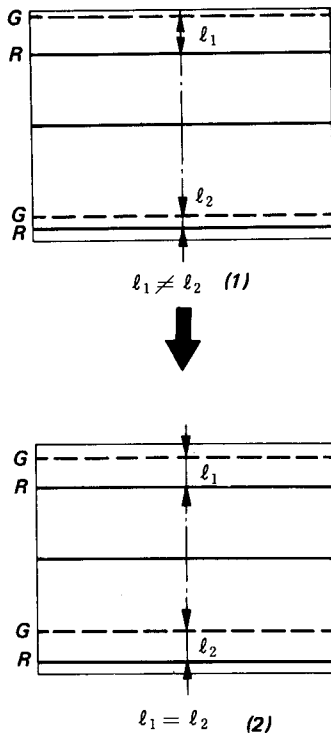

Fig. 3-22
- ① Adjust RV5505 (V. SKEW <G>) so that the red horizontal center line is parallel with the green horizontal center line.
- ② Repeat the procedures 6) and 7).
- 9) When the vertical adjustment can not be obtained by using RV5505 (V. SKEW <G>), set RV5505 (V. SKEW <G>) to the mechanical-mid position and perform the step (4) through (7) again.
- 10) Adjust RV5503 (V. SIZE <G>) so that " ℓ_1 " is equal to " ℓ_2 " as shown in Fig. 3-22.